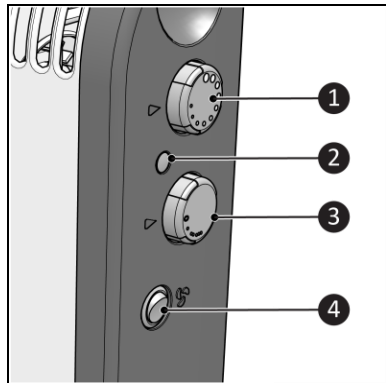

Figure 8
1. Turn the power knob (Figure 8, pos. 3) to the desired position:
2. Turn the thermostat knob (Figure 8, pos. 1) to the maximum. The pilot light (Figure 8, pos. 2) will light up.
3. When the space has reached the desired temperature, turn the thermostat knob (Figure 8, pos. 1) anticlockwise slowly until you hear a click. The thermostat will maintain the current temperature by turning the heater on and off.
4. For faster and better heat distribution, turn on the fan (Figure 8, pos. 4).
5. If necessary, turn the power knob (Figure 8, pos. 3) for higher or lower power.
6. If necessary, turn the thermostat knob (Figure 8, pos. 1) for a higher or a lower temperature.
1. Set the thermostat knob (Figure 8, pos. 1) to its maximum position.
2. Leave the power knob (Figure 8, pos. 3) on OFF.
3. Switch on the fan (Figure 8, pos. 4).
1. Make sure the power knob is in the OFF position (Figure 8, pos. 3).
2. Make sure the fan switch is in the OFF position (O) (Figure 8, pos. 4).